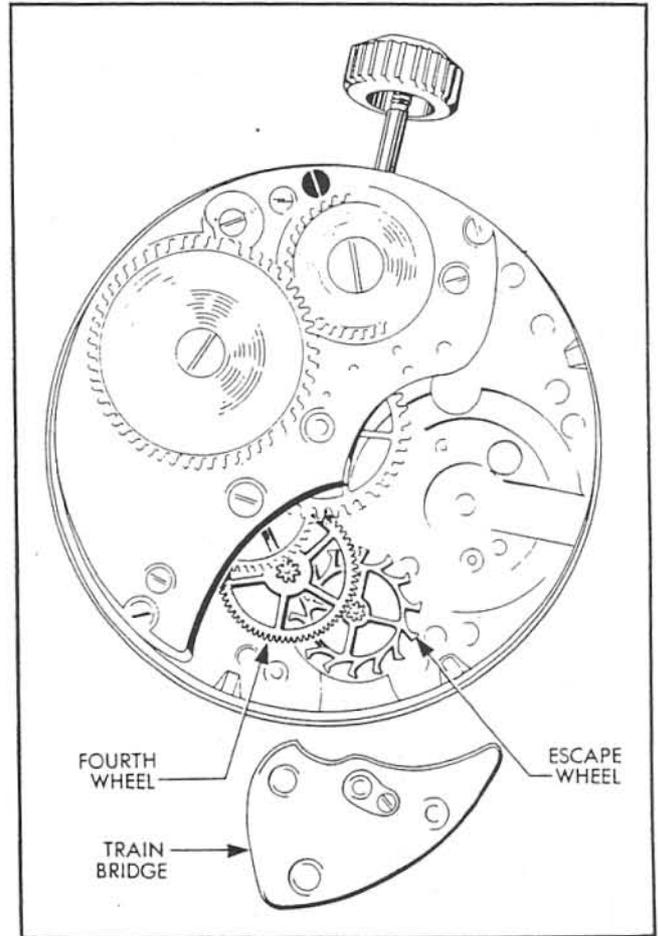

Figure 27—Installing Train Bridge
(5) TRAIN BRIDGE. (See figure 27.)—Assemble the escape upper endstone cap to the train bridge with its screw. Place the fourth and escape wheels in their jewels in the pillar plate and set the train bridge in place being sure that both the fourth wheel and the escape wheel are properly seated in their upper jewels in the bridge. Fasten it with the two bridge screws. Then wind the watch slightly and observe the action of the train to be assured that it operates freely and smoothly.